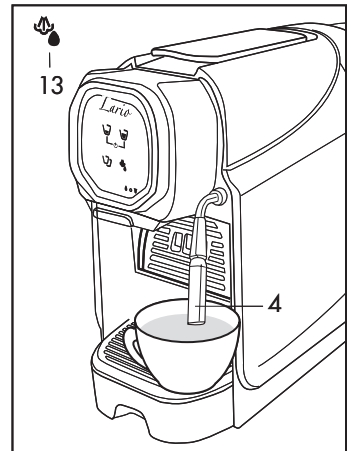

Fig. 12
- Place a cup under the nozzle (4) (Fig.12)
- While pressing symbol (13) the machine delivers water (Fig.12). Release the key when the desired quantity has been delivered
- A light touch of the symbol (13) activates the steam function (Fig.12). Touch again to stop the steam function